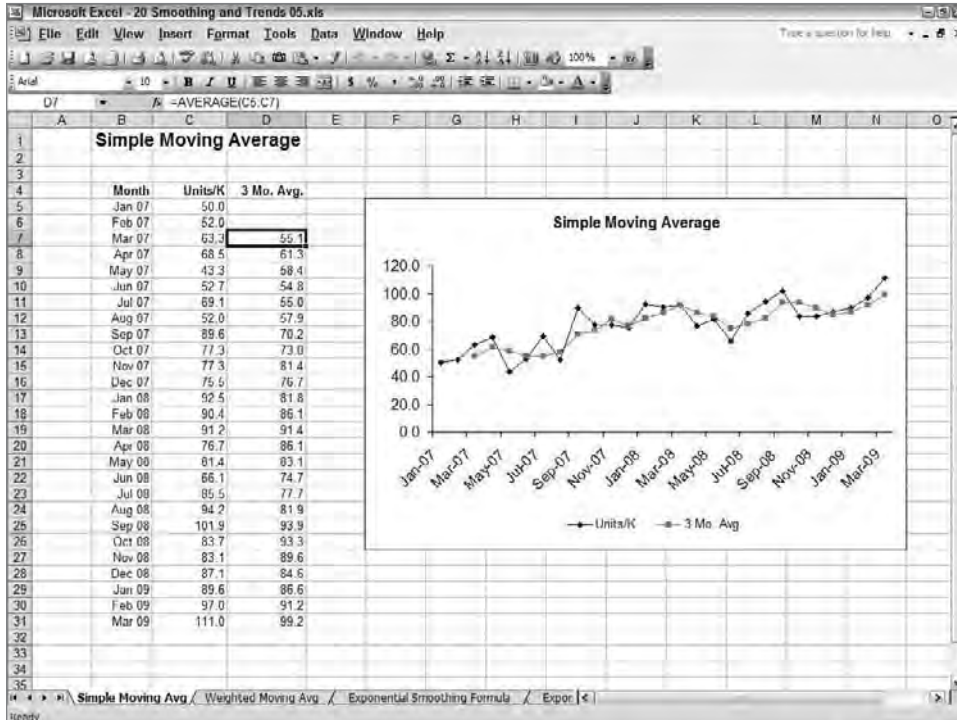

Figure 22.1: Simple smoothing can be done with AVERAGE and relative references.
In Figure 22.1, the erratic data is in the range C5:C31. A smoothing formula is used in D7:D31 to create a smoother set of values. You can see the difference in the chart.
- There are no data points until the first average has been calculated. Notice in Figure 22.1 that cells D5 and D6 are blank.